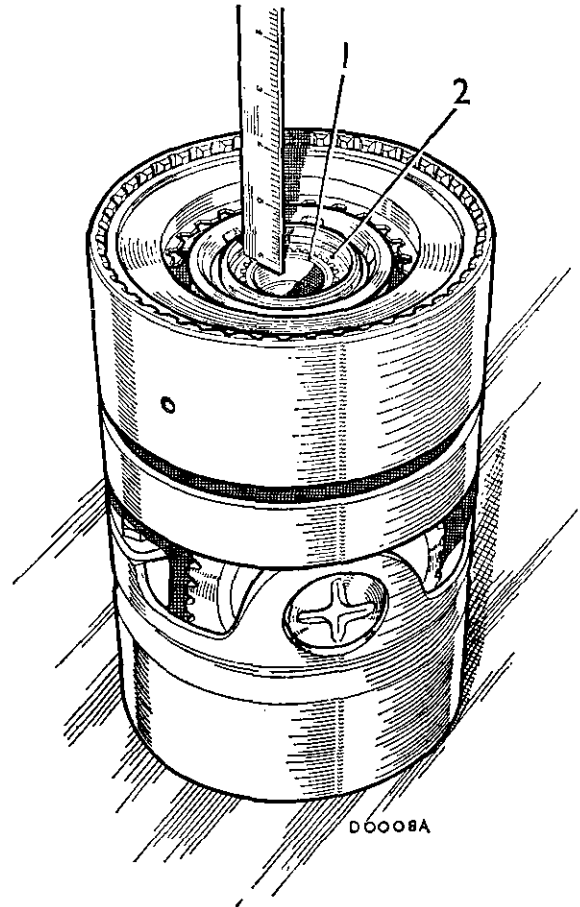

Fig. Fa.49
- (32) Check across the splined end of the reverse output shaft and the adjacent face of the top and reverse clutch (Fig. Fa.49). Both faces must be exactly level with no gap, to ensure that the third speed reaction gear has no end-float and the correct backlash is maintained. If both faces are not level, remove and measure the thickness of the selective steel washer fitted in item (31) and fit the correct selective washer from the range available (see washer chart below).